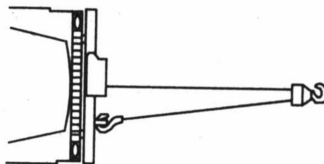

Figure 15
1. Double line with a pulley block (see Fig. 15) to reduce the load on the winch, wire rope and battery. Double lining will also reduce winch line speed. Be sure all equipment used meets the winch's maximum line pull rating. When double-lining, pulley blocks should be rated to a minimum of two times the winch's line pull rating.